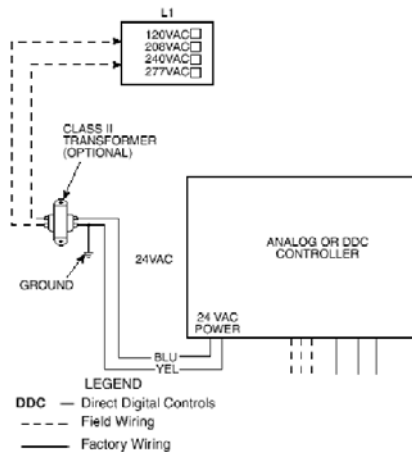

FIGURE 4 – Wiring of Optional Factory-Mounted Transformer
Step 3 — Install Sensors and Make Field Wiring Connections — Electric Analog or DDC (Direct Digital Controls) — Refer to specific unit dimensional submittals and control application diagrams for control specifications. All field wiring must comply with National Electrical Code (NEC) and local requirements. Refer to the wiring diagram on the unit for specific wiring connections. A field-supplied transformer is required if the unit was not equipped with a factory-installed transformer. See Fig. 4.